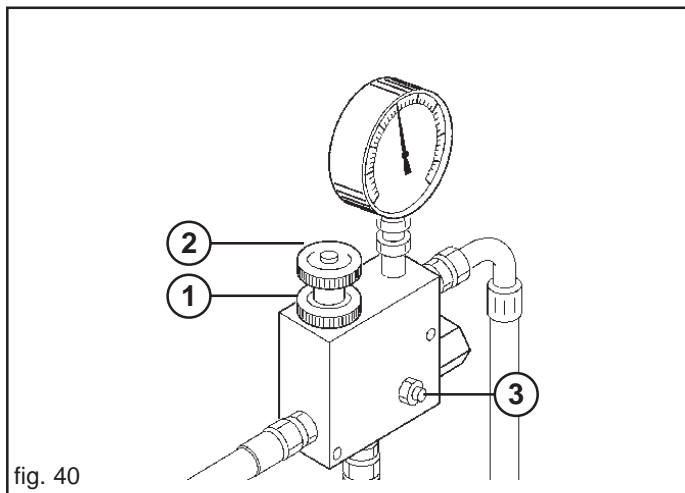

fig. 40
If you wish to increase the number of revolutions of the fan for distributing heavier seeds, carefully proceed as follows (Fig. 40):
- b) loosen the handwheel (1, Fig. 40);
- c) rotate the handwheel (2, Fig. 40) clockwise or anticlockwise to reduce or increase pressure and adjust the number of revolutions of the blower accordingly.